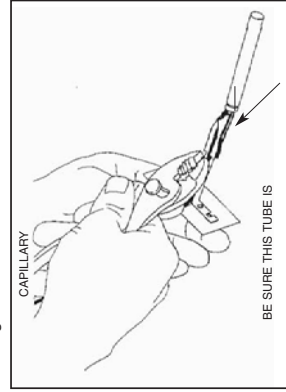

FIG. 4-INSERTING CAPILLARY TUBING IN HOLDER
- 4 Place capillary tubing in bulb holder channel, and pinch top edges of holder together at each segment, as shown in Fig. 4.